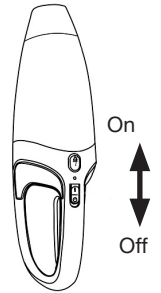

Figure 5
3. To start the vacuum cleaner, move the "on/off" switch into the "I" position (Fig. 5).
4. After use, turn the "on/off" switch into the "0" position then put it back on its base to charge the battery for the next use (Fig. 5).
5. After use, turn the "on/off" switch into the "0" position then put it back on its base to charge the battery for the next use (Fig. 5 of the previous section).